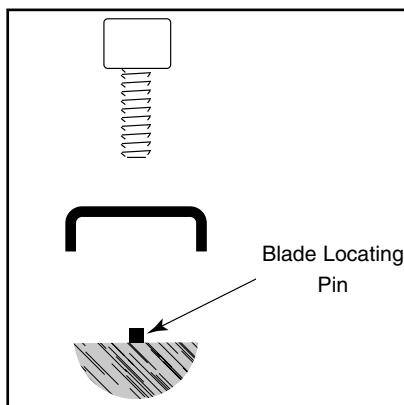

Fig 4. Blade Clamp Assembly.
3. Remove the blade and replace with blade that has appropriate shank profile (see **Figure 4**). Make sure the blade has the correct tooth count per inch for the job to be done.